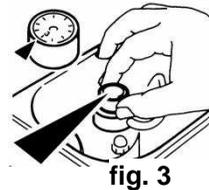

fig. 3
- Turn air regulation screw clockwise to "0" (=closed), then turn air regulation screw back to desired position (numbers point to the outlet, see fig. 3).